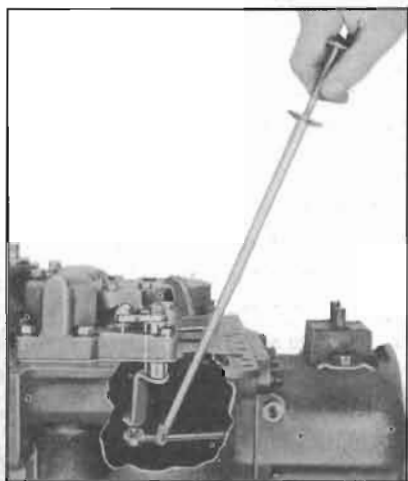

Figure 4-145—Connecting Valve Operating Rod to Upper Lever
7. Using Linkage Hook-Up Finger J 2591, position the socket of valve operating rod under the ball of valve upper operating lever and pull upward until ball snaps into the socket. See figure 4-145.